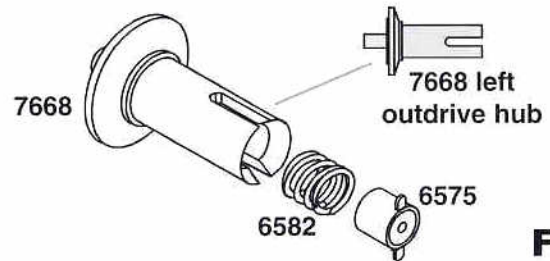

Fig. 44
□ **Fig. 44** (1) From bag A remove the #7668 left diff outdrive hub and the #6582 diff thrust spring. Push the spring into the outdrive. (2) Carefully trim the #6575 nylon T-nut from the parts tree so you do not cut off the "ears." Push the T-nut into the outdrive.